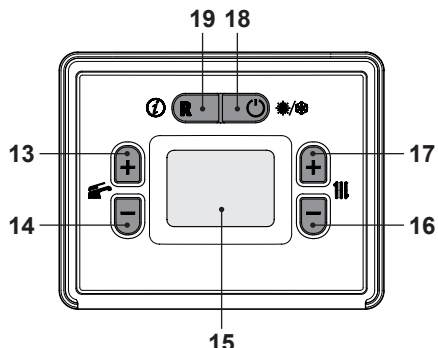

Fig. 10.1
- By using keys 16 or 17 (Fig. 10.1) it is possible to modify the value of parameter A51 from **1** to **52** weeks (**52** = 1 year).
- With the value flashing, pressing key 18 (Fig. 10.1) will confirm the value entered and activate the function.
- By using keys 16 or 17 (Fig. 10.1) it is possible to modify the value of parameter A50:
- From the parameter list, pressing key 18 (Fig. 10.1) will exit the “programming mode.”